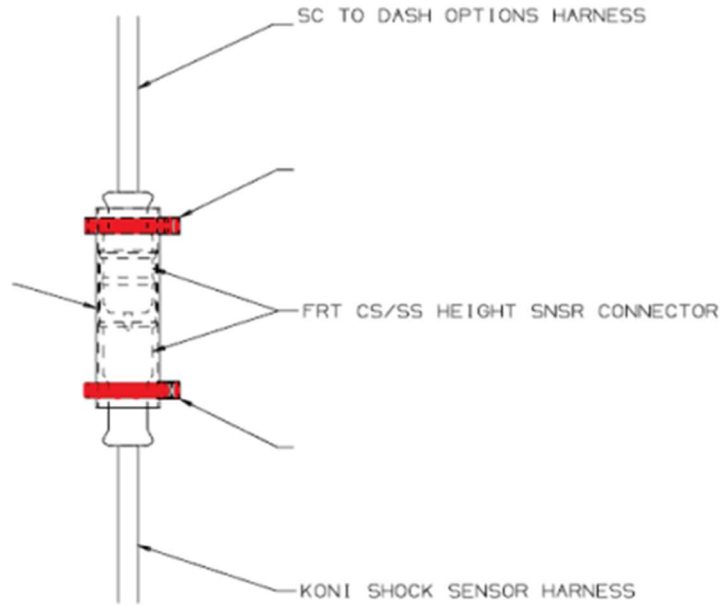

Figure 8: Connector with Shrink Tube & Tyraps.
23. After ensuring the connector terminals are in good condition, the connector can be plugged into the dust cover harness connector and sealed with shrink tube. Figure 8.
43. After ensuring the connector terminals are in good condition, they may be sealed with shrink tube. Figure 8.